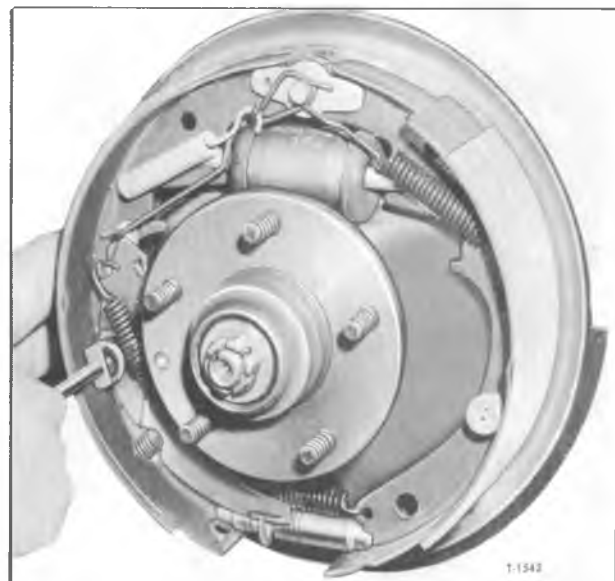

Figure 29—Removing Hold Down Springs and Pins
7. Remove hold-down pins and springs. Refer to figure 29.